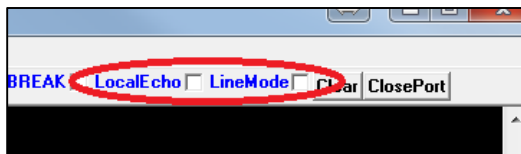

Figure 14: LocalEcho and LineMode checkboxes
1. On the UWTerminal, unselect the LocalEcho and LineMode checkboxes (Figure 14).